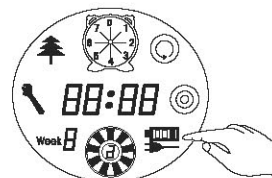
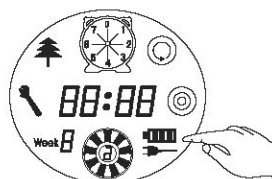

Figure 4
Figure 5
6. After the battery is used up, the first grid of the charging icon will flicker, when the second and then the third grid will flicker showing it is charging, stop flickering after completing the charging. (Refer to Figure 4 and Figure 5)